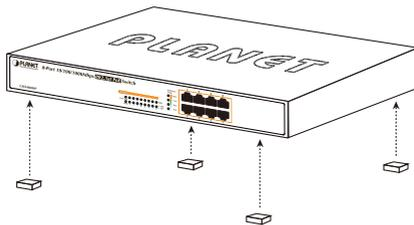

Figure 2-4: Place the Switch on the Desktop
Step 1: Attach the rubber feet to the recessed areas on the bottom of the Switch, as shown in Figure 2-4.